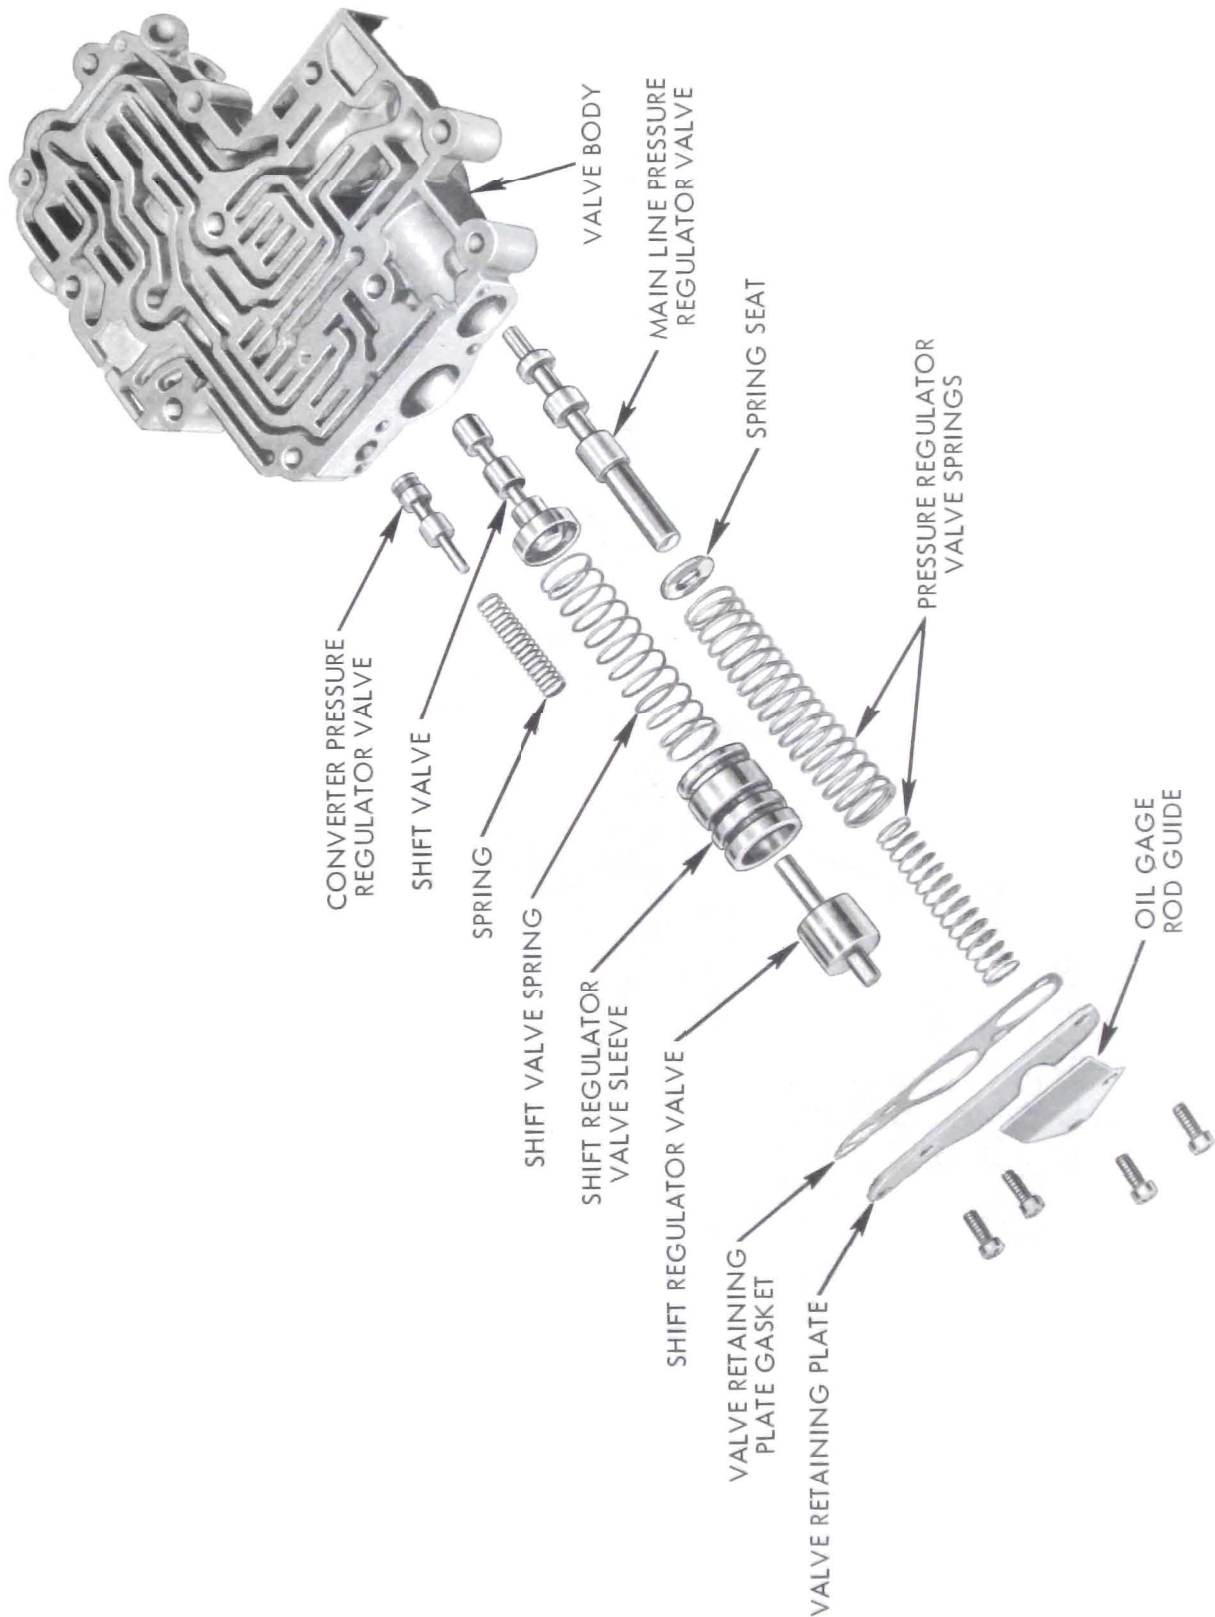

Figure 5-232
12. Tilt valve body and remove valves, sleeves and springs shown in Figure 5-232. Thoroughly clean all valves and valve body in solvent. Inspect valves and valve body for evidence of wear or damage due to foreign material or improper assembly. Be sure small holes in converter pressure regulator, governor, and throttle pressure regulator valves are clear. Be certain small hole (.032'') in valve body plate is clear. Dry valve body and valves with clean air blast.
1. Begin reassembly of valve body by installing converter pressure regulator, shift, and main line pressure regulator valves, sleeves and springs as shown in Figure 5-232. Use new valve retaining plate to valve body gasket; install plate and oil gauge rod guide. Install and tighten screws.